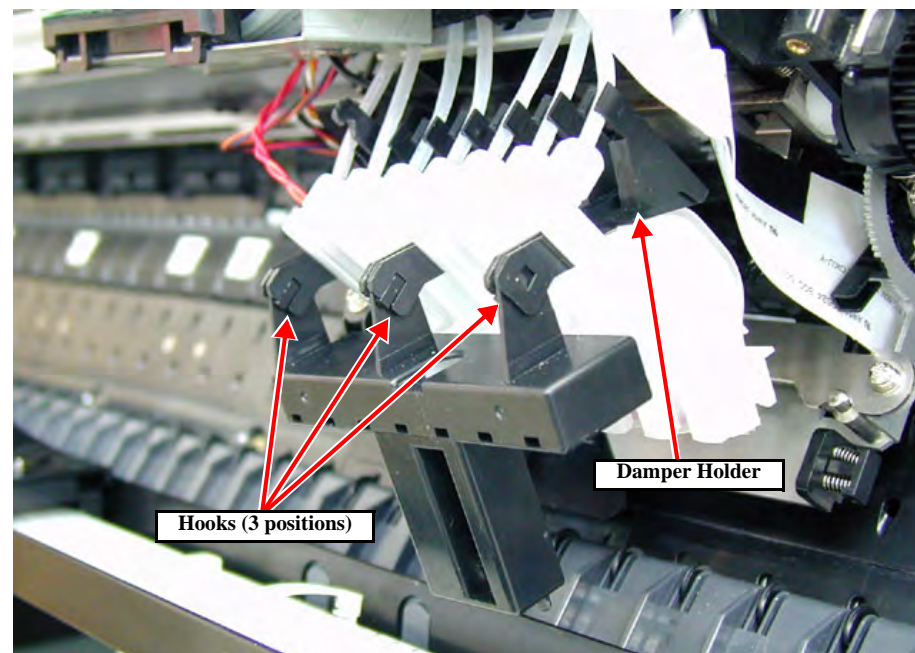

Figure 4-28. Damper Holder Removal
4. Disengage the three hooks of the Damper Holder and remove the Damper Holder. (See Figure 4-28)